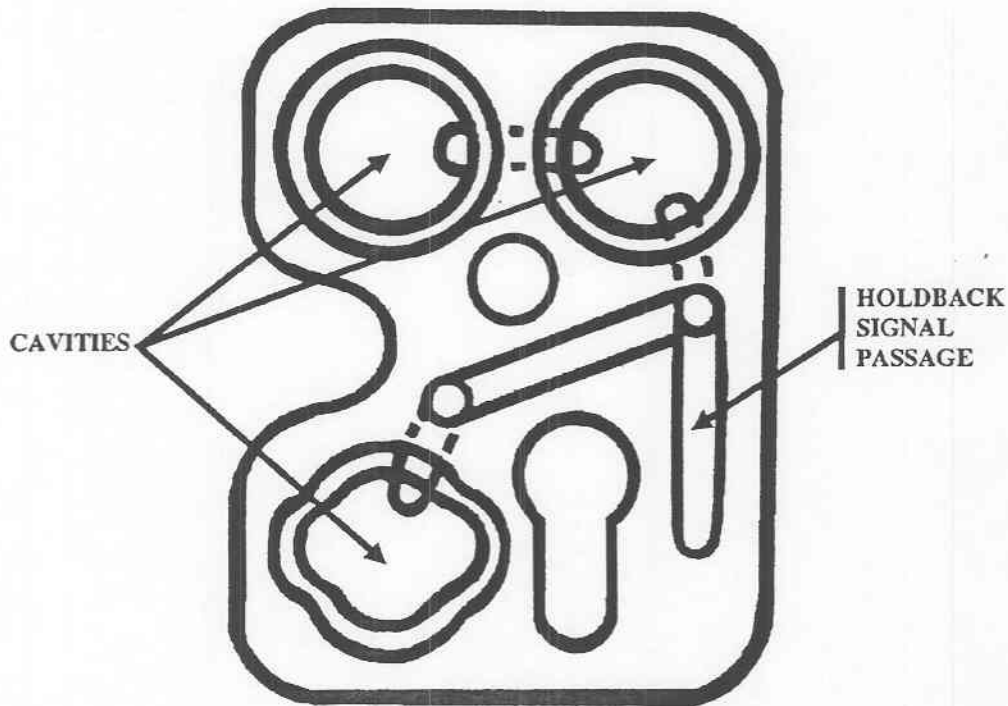

Figure 1-4. Control block front cover detail (inner surface).
(2) The front cover of the block assembly has three cavities in the inner surface (fig 1-4). As indicated by the broken lines, these cavities in the cover correspond in location to the three groups of passages drilled in the front of the assembly block. When the block is assembled, with the diaphragm in place between the assembly block and the cover, the cavities allow the diaphragm to deflect from the surface of the block and allow air to flow between the grouped passages. However, the flow between the grouped passages can occur only if the diaphragm is allowed to deflect into the cavities of the cover. Air pressure from the handpiece selector valve applied into the cavities presses and holds the diaphragm against the block. This prevents any flow between passages and the handpiece cannot operate.